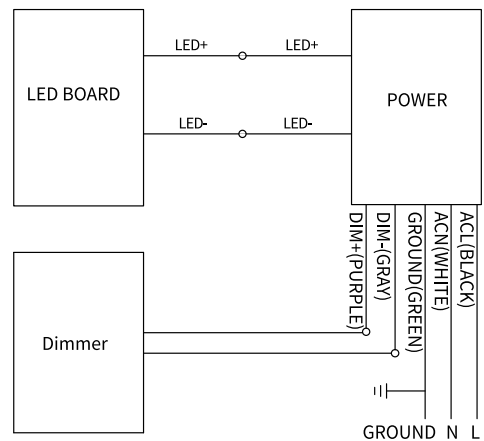

Figure 1
2. Connect wires as below (Figure 1).